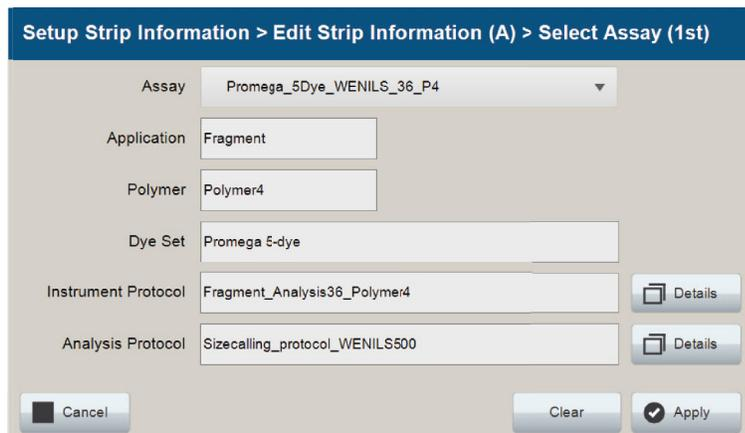

Figure 66. Accessing Instrument and Analysis Protocols on 'Select Assay' window.
- You can verify the settings of the Instrument and Analysis Protocols associated with the assay chosen by selecting **Details** next to these fields (Figure 66). This will display a window showing the settings in these protocols but will not allow you to edit these settings (Figure 67 and Figure 68). To edit the Instrument Protocol or Analysis Protocol, see Section 7. When the assay information is confirmed, select **Apply** to return to the 'Edit Strip Information' screen.